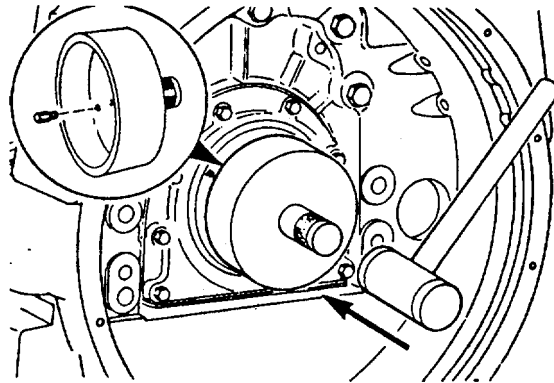

FIGURE 3-96. Installing Seal With Driver.
- (n) Use the crankshaft oil seal driver to install the oil seal in the rear cover (FIGURE 3-96) .